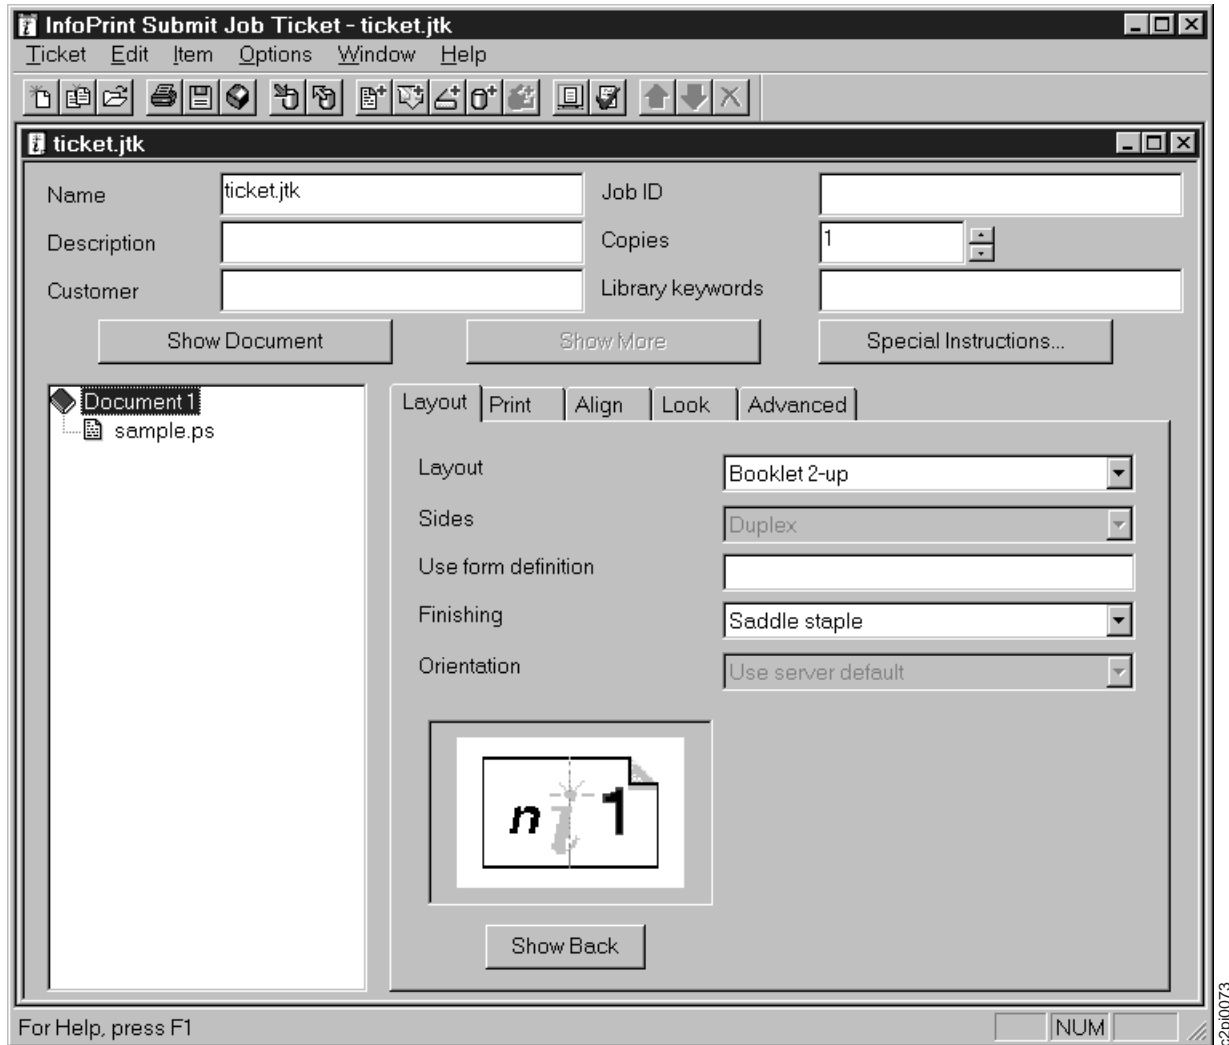

Figure 38. Saddle Stitched 2-UP Document - Layout Tab
1. From the InfoPrint Submit Job Ticket window (Figure 38), insert the files to be printed or finished: